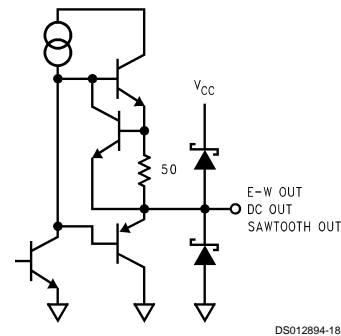

FIGURE 12.
**Pin 11. E-W OUT:** The output waveform at this pin consists of the sum of the linear sawtooth, 2nd order parabolic and 4th order parabolic waveform components. The center position of the output waveform tracks the output voltage at pin 13 (DC OUT). See Figure 12 for the output schematic.
**Pin 13. DC OUT:** This pin outputs a variable DC voltage from 3.65V to 4.05V. The output voltage is controlled by the control voltage at pin 1 (POSITION). See Figure 12 for the output schematic.
**Pin 15. SAWTOOTH OUT:** This pin outputs an S-corrected sawtooth waveform with the amplitude controlled by pin 2 (HEIGHT). See Figure 12 for the output schematic.